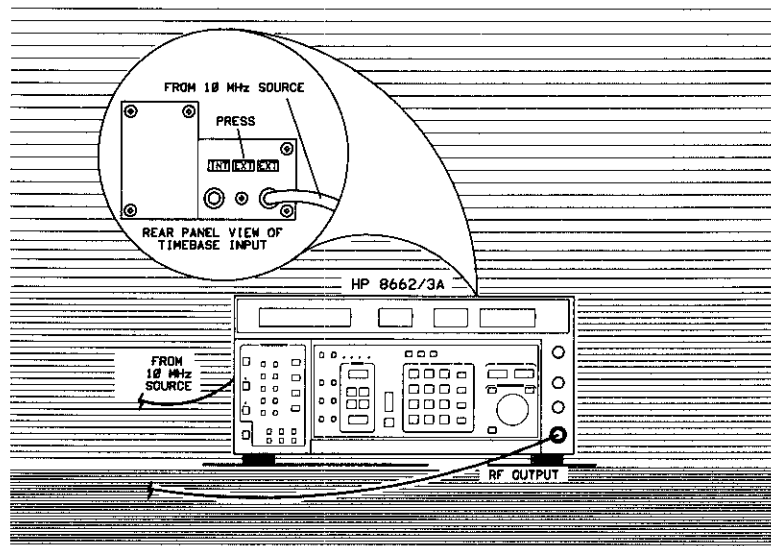

Figure 3-15. 10 MHz External Timebase Input on HP 8662/3.
2. When the Connect Diagram is displayed, connect the signal paths as shown. (Figure 3-15 shows the rear-panel External Timebase Input for connecting a 10 MHz source.) Table 3-11 provides setup considerations that will help you ensure that your measurement results will be valid.